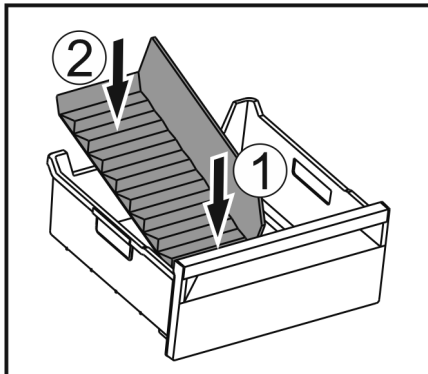

Fig. 75
- ▶ Insert the front part of the ice compartment divider. *Fig. 75 (1)*
- ▶ Lower the rear part of the ice compartment divider to the drawer bottom. *Fig. 75 (2)*